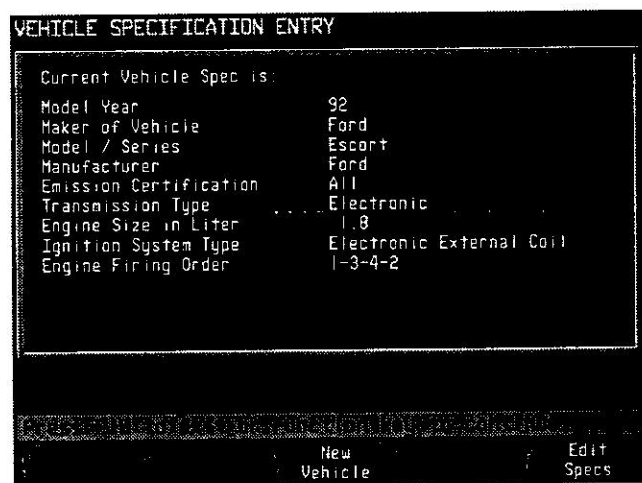

Figure 1-20
1. From any Menu screen, press [F1] to enter a vehicle specifications selection screen (see Figure 1-16). Note that if a vehicle spec is already loaded in memory, or when an existing customer is selected, a full summary screen appears (see Figure 1-20). If the full summary screen appears, press [F3] "New Vehicle," to enter new vehicle specifications.
5. When you have finished selecting vehicle specifications, the analyzer will display a result screen summarizing the data just entered (see Figure 1-20).
2. Select the vehicle specifications as described previously in *Loading Vehicle Specifications by Year/Make/Model*. When specs are loaded, a result screen similar to Figure 1-20 will appear.